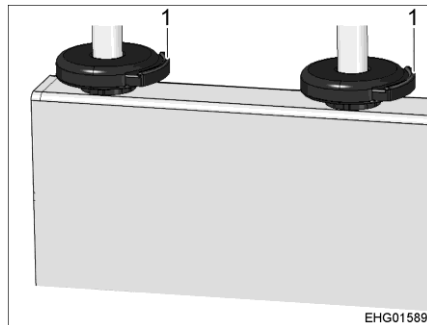

Fig. 17 Headrest release
- Press the release (Fig. 17, 1) on the two guide rods of the headrest.